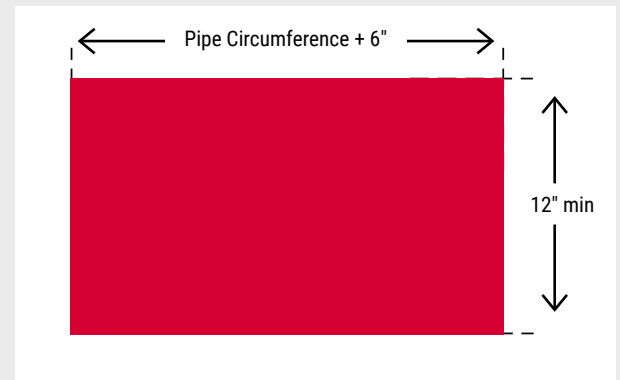

Figure 1:
1. Cut a piece of VaporFlex® Standard that is equal to pipe circumference plus 6" additional wide by minimum 12" in length. *(Fig. 1)*